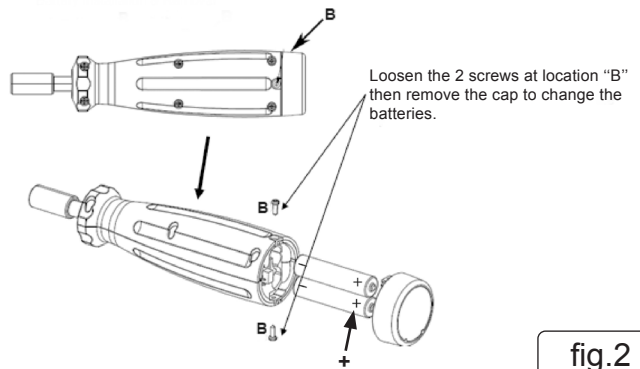

fig.2
- 4.1.2. Unscrew the 2 screws at location 'B'. See (fig.2). Carefully remove end cap from screwdriver handle.
- 4.1.3. Insert both batteries ensuring the polarity of the battery is the correct orientation in the battery compartment. See (fig.2).
If the battery is empty, the indicator on the display will show , an entirely white battery symbol. The batteries must be replaced in order to guarantee full function and accuracy. See fig.2.
- ✓ If it is anticipated that the screwdriver will be out of use for a time, the batteries should be removed (fig.2).
### BATTERY REMOVAL: SEE FIG.2.